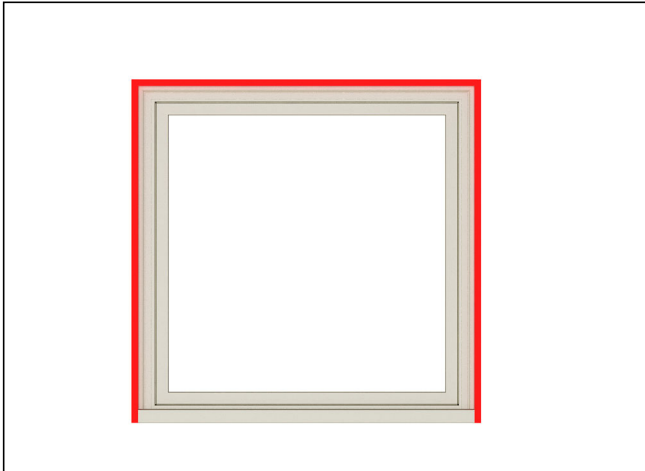

Figure 27
- Seal casing with clear grade NS class 25 sealant at each jamb and the head jamb to siding or weather resistant barrier. (If required, backer rod may be used.) See *figure 27*.